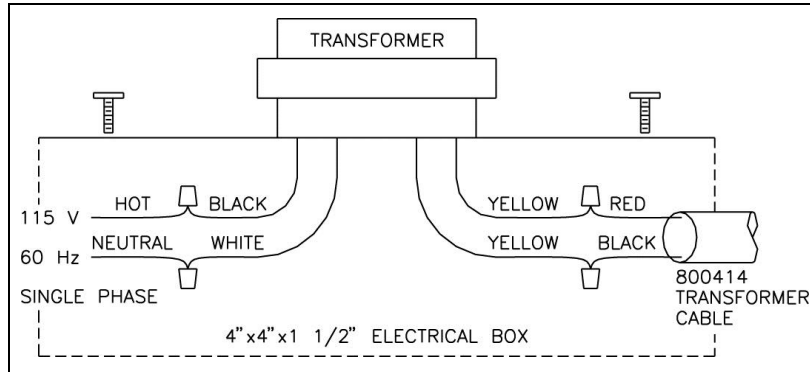

Figure 14: Transformer Installation
2. Refer to Figures 12 and 13 wiring diagram for pressure sensor, DIM, TSI Damper/actuator, and TSI flow station wiring. Refer to Figure 14 wiring diagram for transformer wiring.
3. Connect 115 VAC line voltage HOT wire to BLACK wire on transformer and NEUTRAL wire to WHITE wire on transformer (Figure 14).